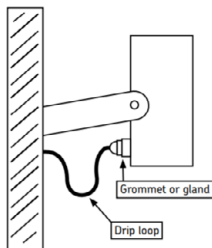

Fig. 2
- Feed the cable through the compression gland on the rear of the access plate. A drip loop should be left on the incoming mains cable (see Fig. 2)